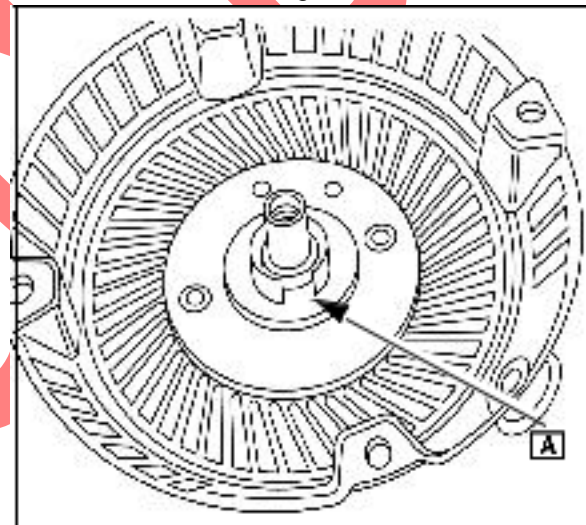

Fig. 25
Note the location of the free end of the spring in the pulley assembly and of the inner spring retainer ([A] Fig. 25) in the starter housing.
Line up the free end of spring with the spring retainer (A) in the housing (Fig. 25).